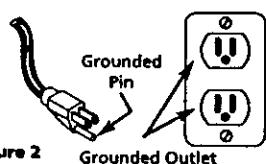

Figure 2
1. This product is for use on a nominal 120 volt circuit and has a grounding plug that looks like the plug illustrated in Figure 2. Make sure the product is connected to an outlet having the same configuration as the plug. This product must be grounded. In the event of an electrical short circuit, grounding reduces risk of electrical shock by providing an escape wire for electric current. This product is equipped with a cord having a grounding wire